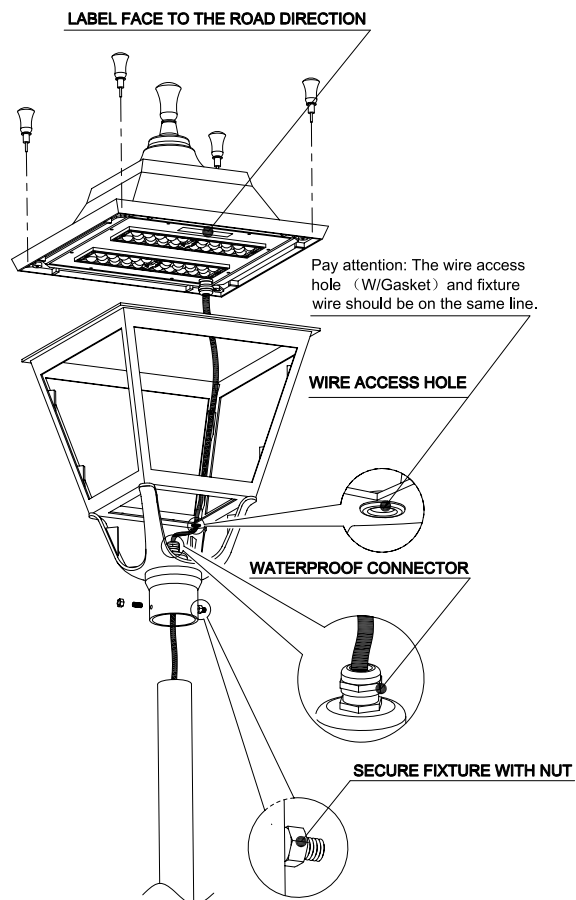

Figure 2
2. Attach the Upper part to the Bottom part and secure them with supplied Decorative Screws(4). See Figure 2.
3. Pull the fixture wire through Wire Access Hole and Waterproof Connector. Then tighten the Waterproof Connector Nut. See Figure 2.
4. Make the wiring connections with supplied Wire Nut (3) and knot the wires for strain relief.
5. Slip the fixture over a pole or tenon. Then secure the fixture with Set Screw (4) and Nut (4). See Figure2.